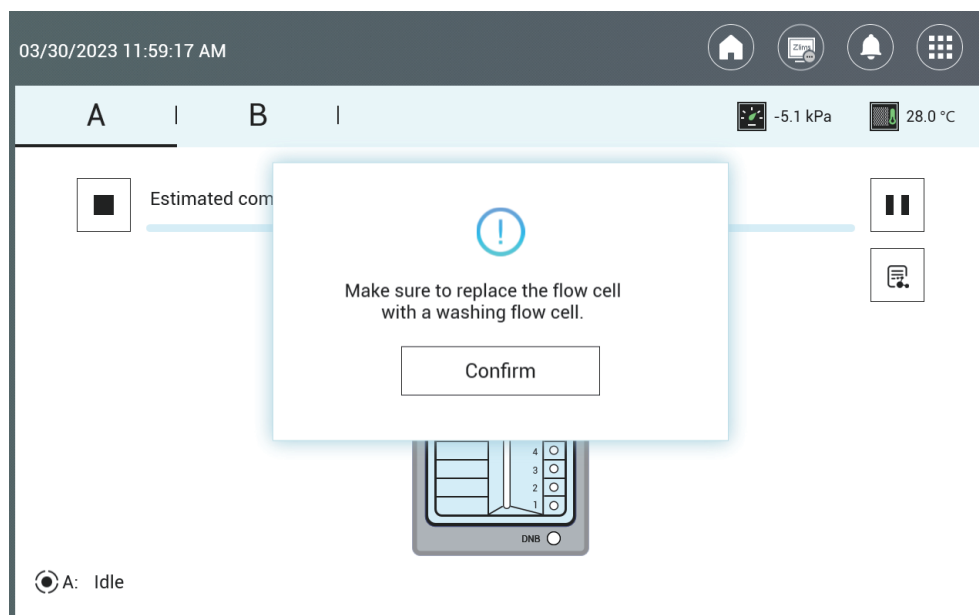

Figure 36 DL-T7RS flow cell loading complete status interface
16. The process takes around two hours. When the screen is shown as *Figure 36* on *Page 80*, the flow cell loading is complete.
- When the loading is complete, install the washing flow cell onto the flow cell stage and press the flow cell attachment button. Close the flow cell compartment door. Select **Confirm** as shown in *Figure 36 on Page 80*.